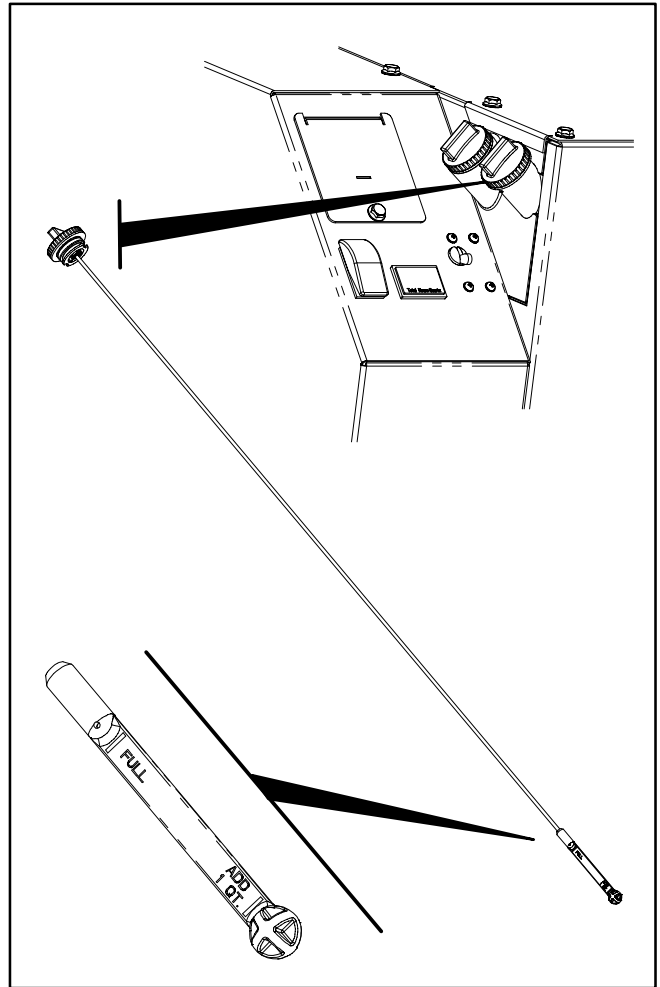

FIGURE 5. CHECKING ENGINE OIL LEVEL
1. Unscrew the oil fill cap, pull out the dipstick and wipe off the oil (Figure 5). Reinsert the dipstick, screw the cap back on, remove the dipstick again and check the oil level on the dip stick.
1. Run the engine until warm, stop it and remove the oil fill cap and dipstick (Figure 5).